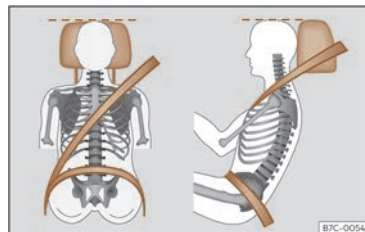

Fig. 17 Correct belt web and headrest positions
- Adjust the head restraint so that its upper edge is, as far as possible, at the same level as the top of your head, as close to eye level as possible¹⁾ >>> page 119. Keep the back of your neck as close as possible to the headrest >>> Fig. 17.
- Adjust the seat lengthwise so that you can press the pedals fully down with your knees slightly bent and there is a distance between the knee area and the dash panel of at least 10 cm (4 inches) >>> Fig. 17.